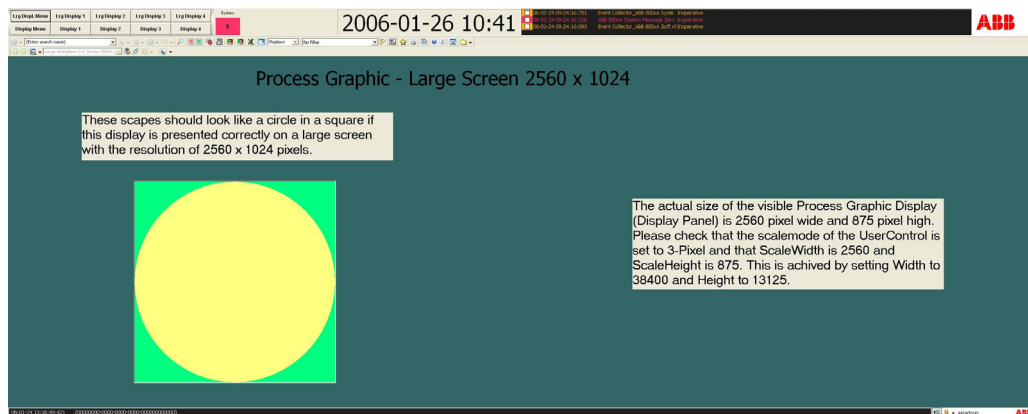

Figure 50. Large Workplace Example
- Open your Large Workplace to see the result. Figure 50 shows an example of a Large Workplace.